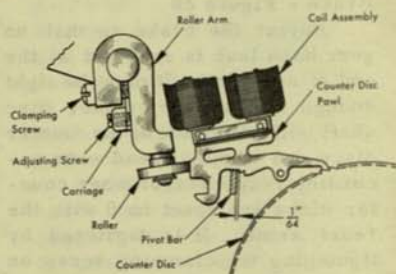

Figure 23
1. Adjust the counter disc latching roller arm on the carriage so that the pawl is driven $1/64''$ beyond its latching point by the roller (Figure 23).